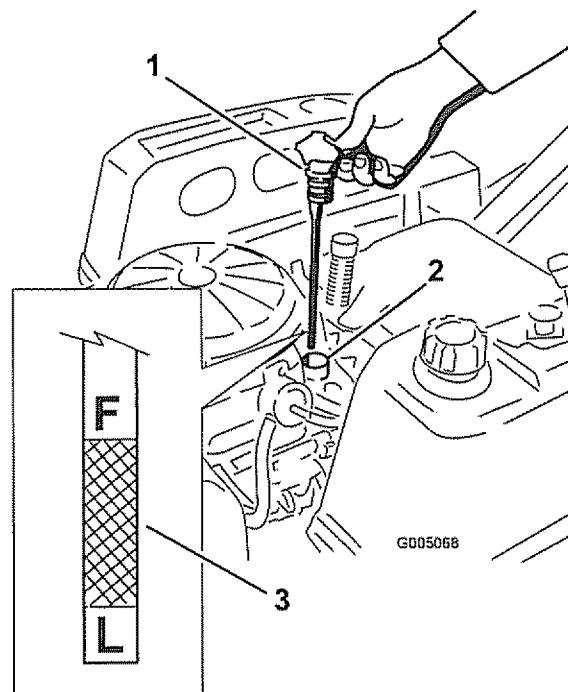

Figure 27
4. Pull and remove the oil fill cap/dipstick; wipe oil off. Reinsert the dipstick and push firmly into place (Figure 27).
5. Remove the dipstick and check the oil level. (Figure 27).
8. Turn the drain valve 1/4 counter clockwise to open and allow the oil to drain (Figure 29). Remove the oil fill cap/dipstick (Figure 27).
15. Slowly pour approximately 80% of the specified oil into the filler tube (Figure 27).
16. Install the oil fill cap/dipstick and push firmly into place (Figure 27).
17. Check the oil level (Figure 27); refer to Checking the Oil Level.
19. Install the oil fill cap/dipstick and push firmly into place (Figure 27).